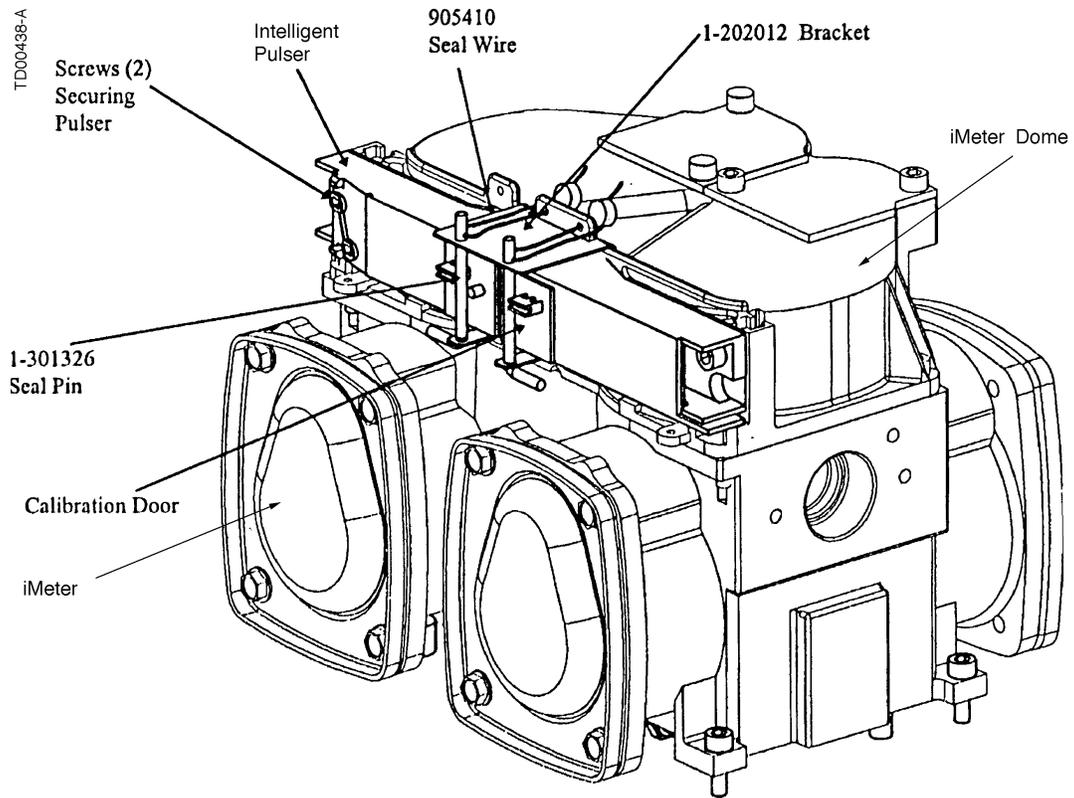

FIGURE 7-10. IMETER MODULE. *Earlier production iMeter modules will have seal pins and bracket.*
3. Cut and remove the seal wires on the calibration doors. Remove the calibration pins if applicable. See Figure 7-10.